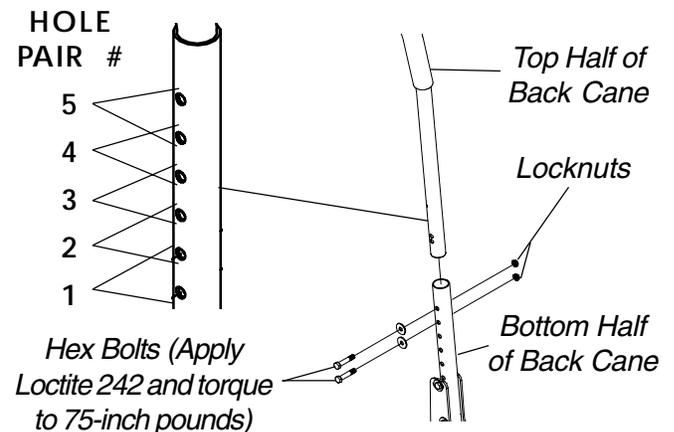

FIGURE 2 - ADJUSTING BACK HEIGHT
**ADJUSTING BACK HEIGHT (FIGURE 2)**
1. Remove the two (2) hex bolts, washers and locknuts that secure the top half of the back cane to the bottom half of the back cane.
2. Reposition the back cane to one (1) of five (5) pairs of height adjustment holes: